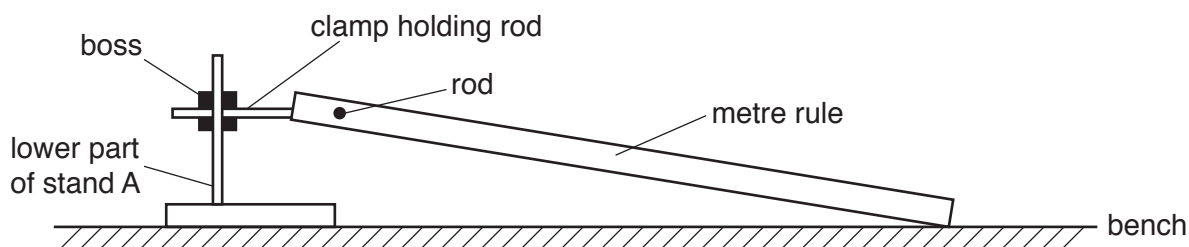

Fig. 4.1
3. This stand should be labelled A. The Supervisor should assemble the apparatus as shown in Fig. 4.1.
8. At the changeover, the Supervisor should dismantle any apparatus left set up by the candidate and ensure that the apparatus is still set up as in Fig. 4.1.